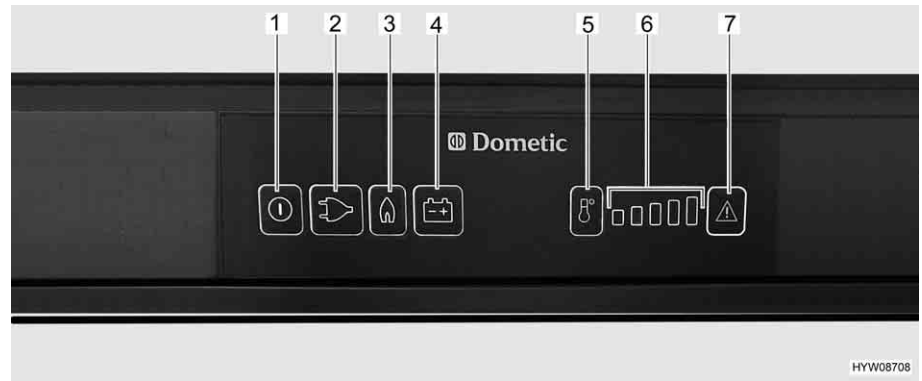

Fig. 216 Operating controls for the refrigerator (Dometic 8 series with MES)
- Press and hold the On/Off button (Fig. 216,1) for about 2 seconds. The refrigerator switches itself on. The button of the operating mode chosen most recently lights up.
- If necessary, press the button for the operating mode "Gas" (Fig. 216,3). The button lights up. Gas supply is open. Ignition will take place automatically. A ticking sound can be heard until ignition has been completed successfully.
- Use the temperature range selection button (Fig. 216,5) to set the refrigerating temperature.
- If necessary, press the button for the operating mode "230 V" (Fig. 216,2). The button lights up.
- If necessary, press the button for the operating mode "12 V" (Fig. 216,4). The button lights up.